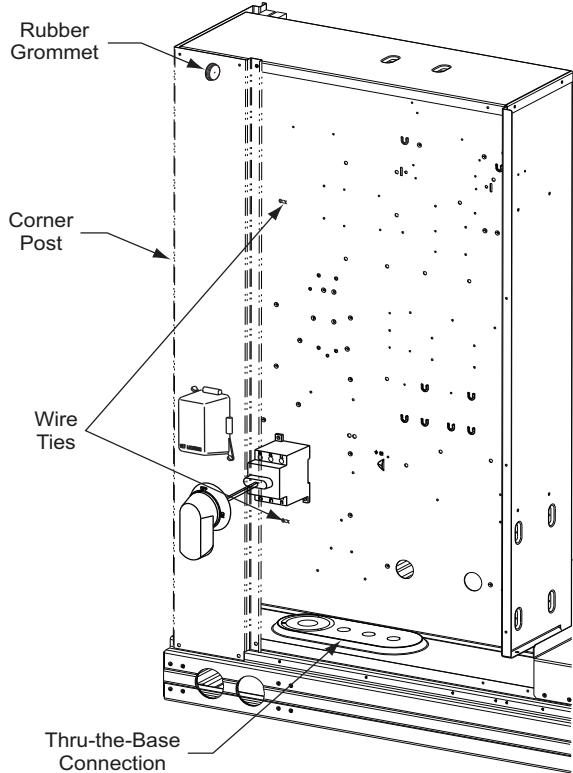

Fig. 48 — Field Control Wiring Raceway
The 50FC unit requires an external temperature control device. This device can be a thermostat (field-supplied) or a SystemVu™ controller (available as factory-installed option for use on a Carrier Comfort Network® or as a stand-alone control). All field added wire must comply with UL and local NEC standards. See "Unit Without Thru-Base Connection Kit" on page 32 and use routing path shown in Fig. 48 to help with compliance as needed.
Correctly rated low voltage wire can be routed through the rubber grommet located on the corner post adjacent to the control box access panel. Route wire through the grommet and then route the wire behind the corner post utilizing the factory provided wire ties secured to the control box. This will ensure separation of the field low voltage wire and the high voltage circuit. Route the low voltage wire to the central terminal board. See Fig. 48.
2. Feed wires through the raceway built into the corner post (see Fig. 48) to the 24 v barrier located on the left side of the control box. The raceway provides the UL-required clearance between high-voltage and low-voltage wiring.
2. Feed wires through the raceway built into the corner post (see Fig. 48) to the 24-v barrier located on the left side of the control box. The raceway provides the UL-required clearance between high-voltage and low-voltage wiring.